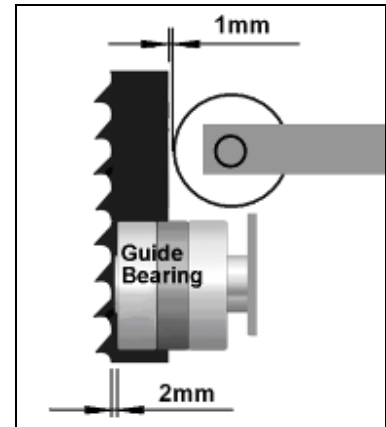

Fig 16
Position the guide assembly forward/backward so that the teeth keep a distance of appr. 2mm to the guide rollers (K). Secure the back guide roller (H) so that the distance to the saw blade is 1mm (Fig 16)